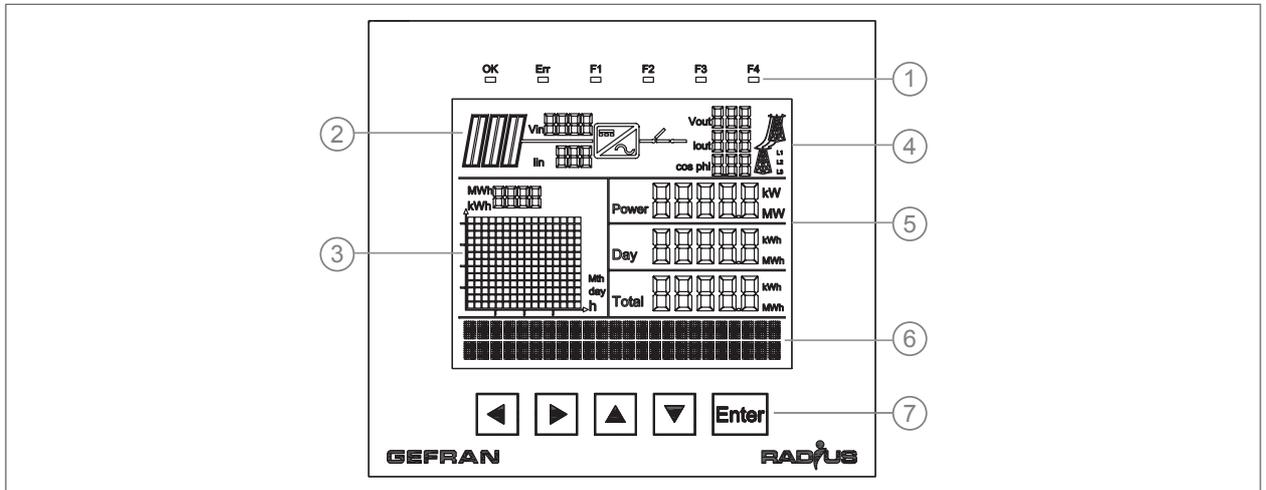

Figure 33 : KA Display
The inverter has connected to the grid (the AC Switch has closed, see Figure 33 ref. 4).